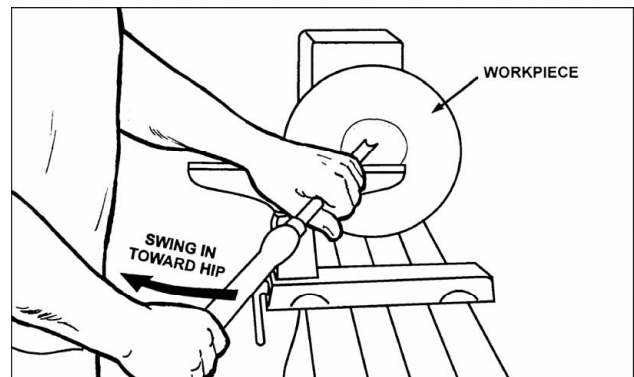

Fig. 23
5. Place the 1/2" bowl gouge on the tool rest at the center of the workpiece with the flute facing the top of the bowl. The tool handle should be level and pointed toward four o'clock, see Figure 23.
6. Use left hand to control the cutting edge of the gouge, while the right hand swings the tool handle around toward your body, see Figure 23. The flute should start out facing the top of the workpiece, and rotate upward as it moves deeper into the bowl to maintain a clean even curve. As the tool goes deeper into the bowl, progressively work out toward the rim. It may be necessary to turn the tool rest into the workpiece as you get deeper into the bowl. **Note:** Try to make one, very light continuous movement from the rim to the bottom of the bowl to ensure a clean, sweeping curve through the workpiece. Should there be a few small ridges left, a light cut with a large domed scraper can even out the surface.